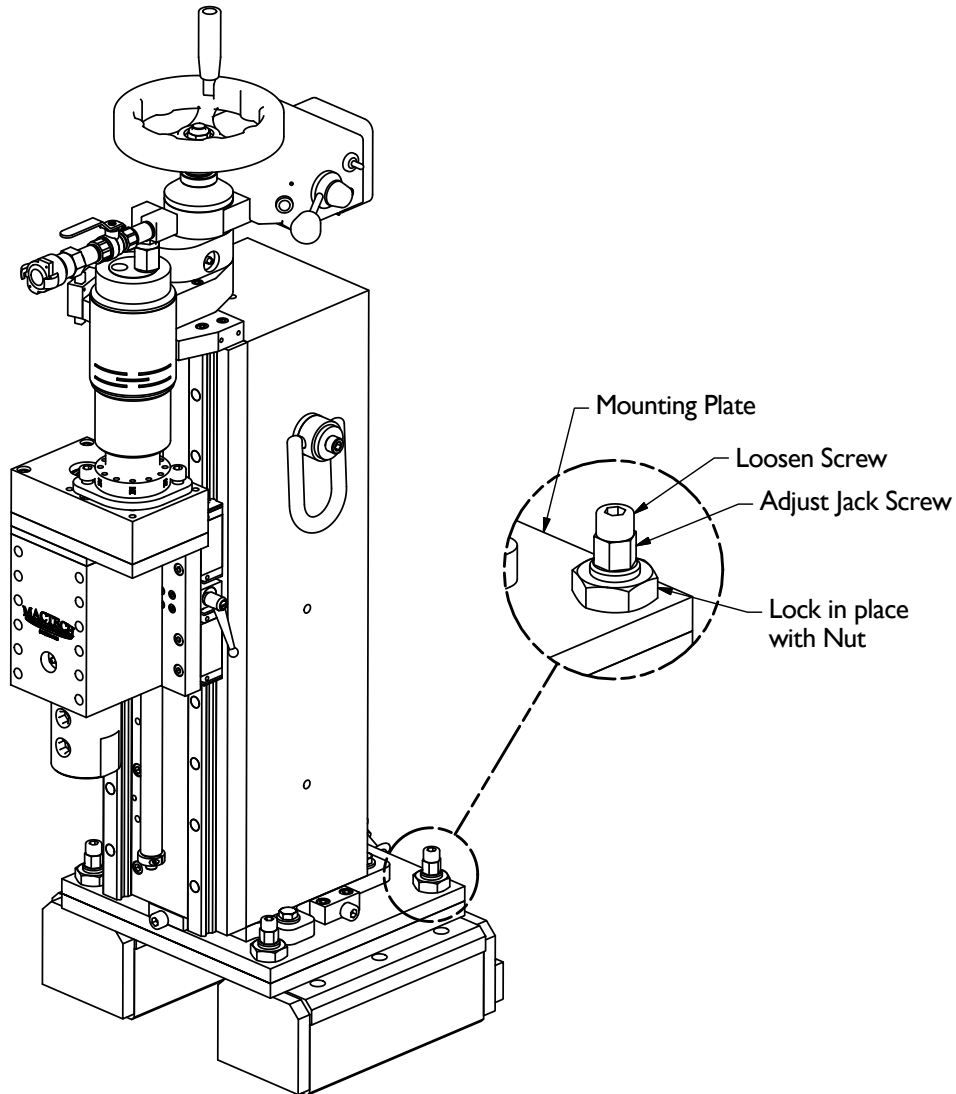

Figure 5 - Jack Screws
2. Level the mill to the workpiece by adjusting the mounting plate with the four jack screws. Lock the jack screws in place with the nut. See Figure 5.